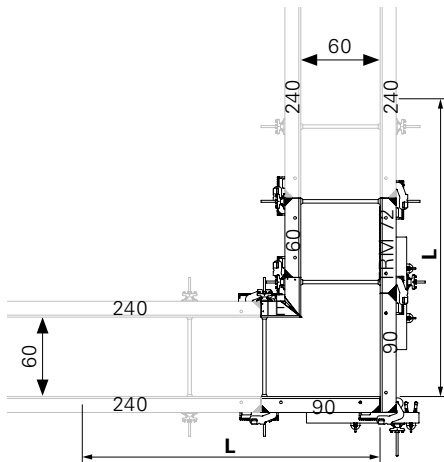

Fig. A7.05
- 3 x Alignment Coupler BFD (20) for a length L of 2.25 m per panel joint
- Compensation Waler TAR 85 (23)
- (Fig. A7.05 + A7.05a)